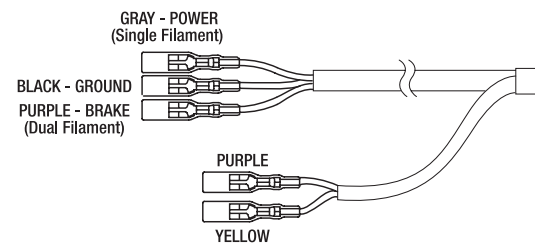

Figure 3. Taillight Wiring Connections
Step 8- Taillight Connection (Figure 3)
Route the taillight section of the harness to the rear of the frame. Figure 3 details the connection colors for single and dual filament taillight bulbs. The optional brake light switch wire colors are the PURPLE and YELLOW connections. Note: It does not matter which color is connected as long as both are used.